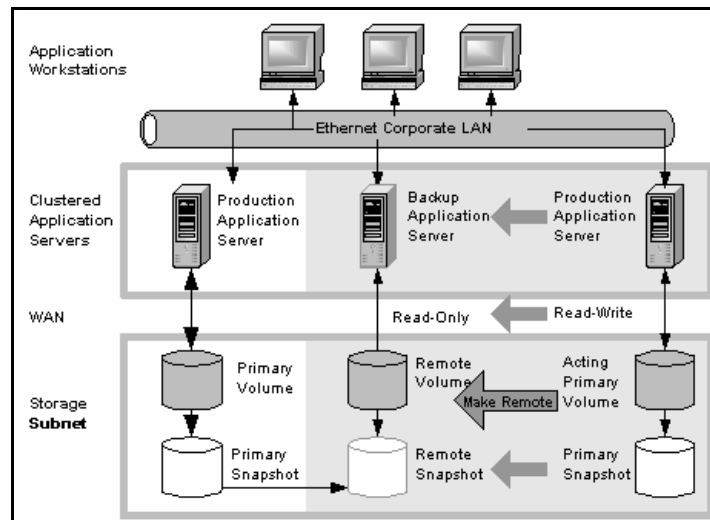

Figure 259. High Availability Configuration During Failback
- Resume operations using the original production server, and return the backup volumes to their original remote status, as illustrated in Figure 259. This will require migration back onto the production volumes of data that was written to the backup volumes since the failure.